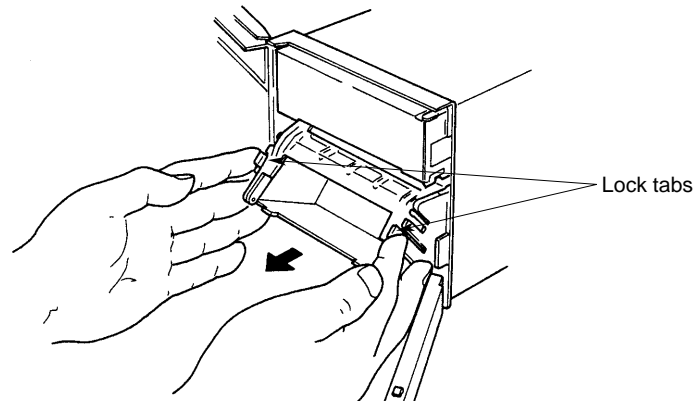

Figure 5.2
- 4 Swing the keyboard open by grasping the upper left corner. While gently pressing the chart paper compartment lock tabs, located at the lower right and left front, in the direction of the arrow, swing and lift the compartment away from the unit (see figure 5.2).